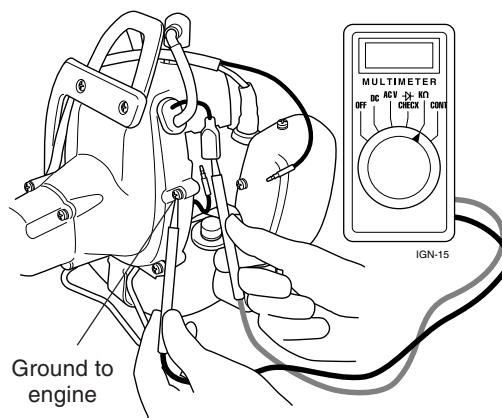

Figure 5.14 Testing the primary
- Test primary coil resistance and compare with new parts (Figure 5.14).